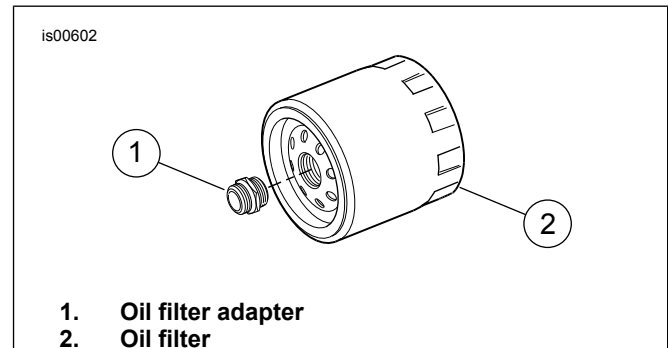

Figure 1. Oil Filter and Adapter
3. See Figure 1. Remove the spin-on oil filter (2) and oil adapter mounting fitting (1) from oil filter mount location. Clean the oil filter mounting area thoroughly. Discard oil filter adapter.